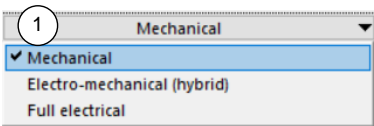

Figure 40. Options for distributing drive torque.
- ① Drop-down list for choosing among three options for distributing drive torque (Figure 40):